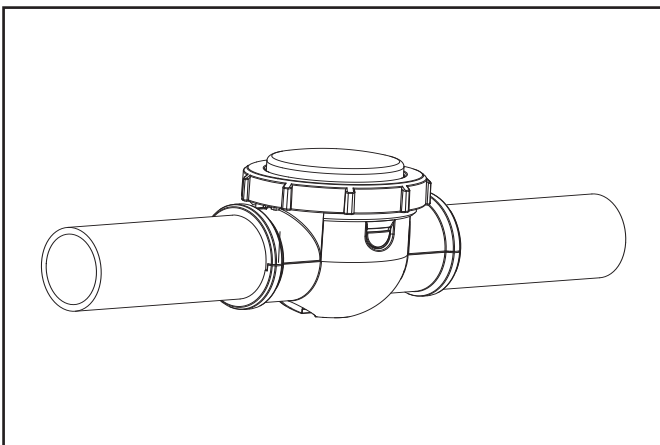

Figure 29. Winterizing Cap Installed
7. Attach the winterizing cap (see Figure 29).